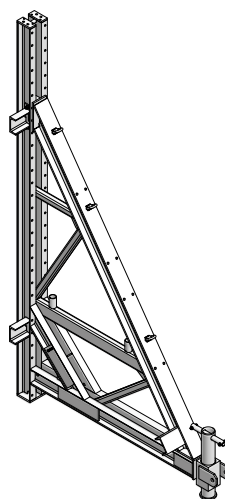

Fig. 4.2 Support frame STB 300 plus
- STB 300 plus up to a height of 3.25 m, with height extensions up to a height of 4.50 m (Fig. 4.2 and page STB-7).